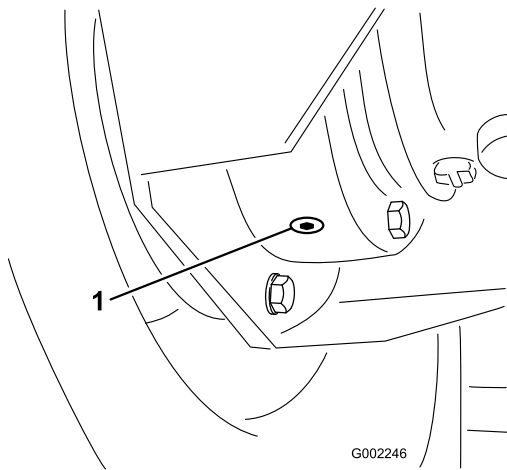

Figure 78
4. Place a pan under the inner drain plug and remove it (Figure 78).